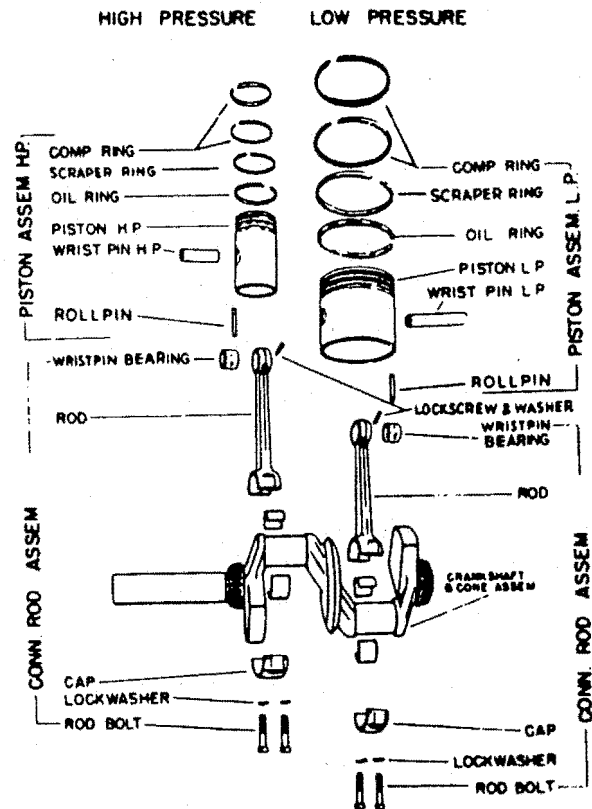

FIGURE 105
2. Wrist Pin — Piston should be "tap" fit by hammer (figure 105). See that lockpin holes are in line.
3. Wrist Pin-Needle Bearing (figure 105) — Wrist pin should fit needle bearing in connecting rod so that pin can be pushed through bearing with moderate pressure when rod is held in both hands with thumbs pressing on end of